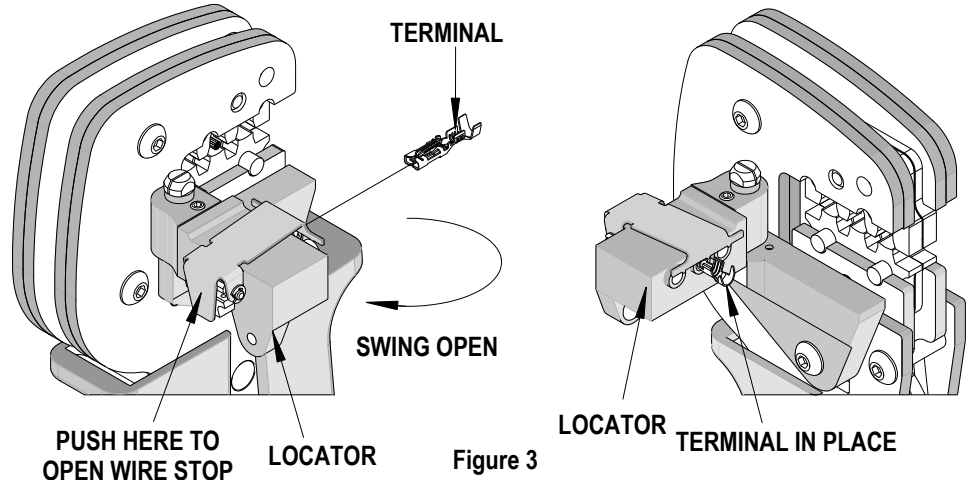
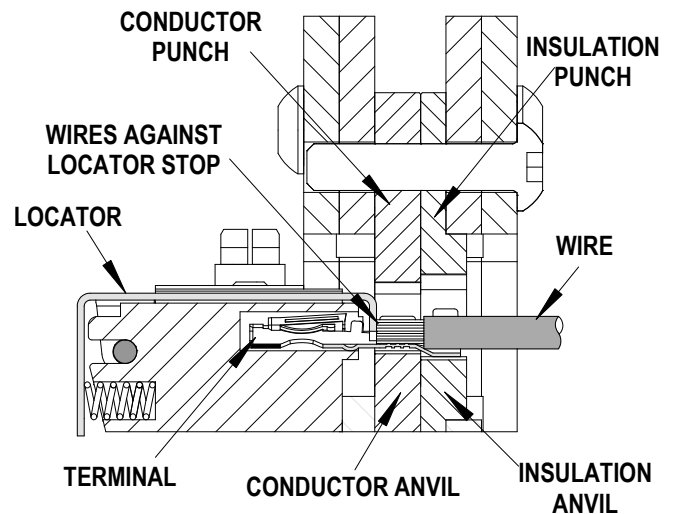
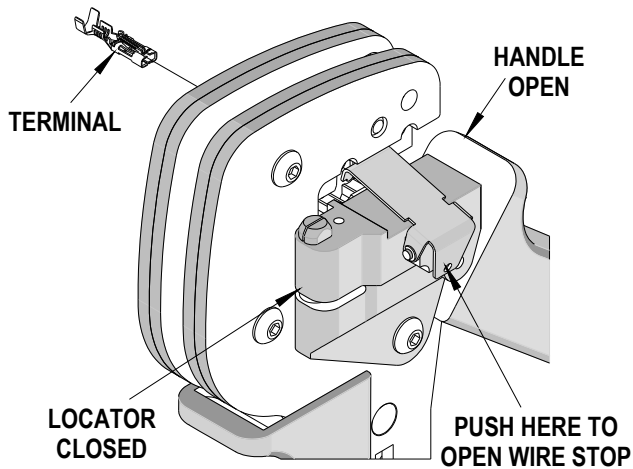

Figure 3
Figure 4
Figure 5
2. Swing the terminal locator away from the crimp tool shown in Figure 3. Some terminals with large insulation grips may interfere with the crimp tooling when swinging the locator into position. The terminal must then be loaded into the locator in the closed crimp position. See Figure 4.
3. Press down on the wire stop on the locator as shown in Figure 5. Insert the proper terminal into the proper nest opening. Make sure when choosing the nest opening, it will correspond with the A, B, or C profile on the hand tool. See Figure 4.
5. Insert the proper wire over the terminal. Gently touch the wire stop with the end of the wire. See Figure 5 and 6.